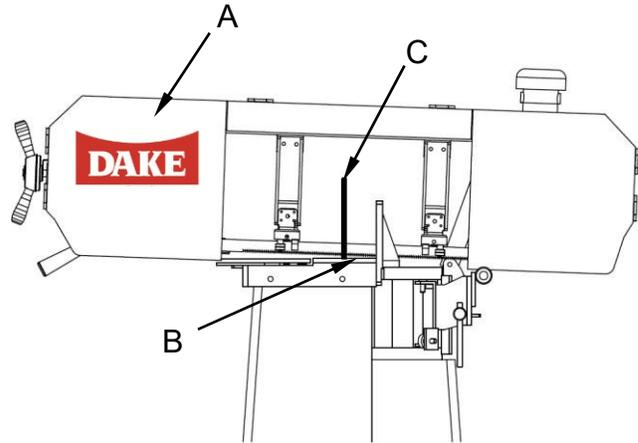
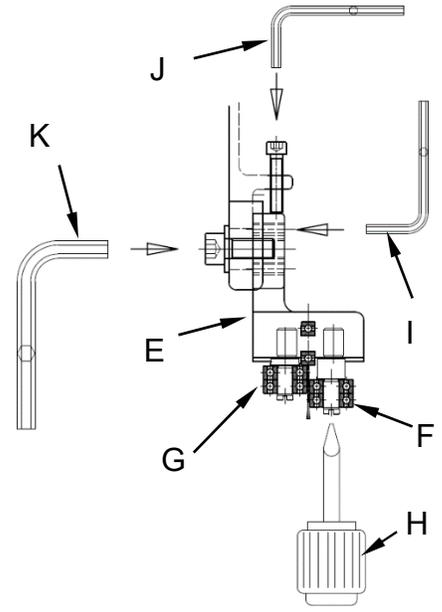
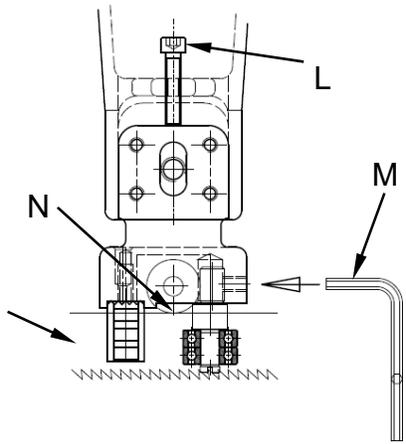

Figure 4
Figure 6
Figure 7
1. Raise the saw to the upward position and the bandsaw roughly $\frac{1}{2}$ " high from the workpiece as shown in (Fig. 4).
2. Remove the 90° angle ruler (C) and lean it against the workpiece surface.
3. Check the saw belt (B) is perpendicular to the work piece. NOTE: (If the deviation is large, you can adjust the blade guides accordingly).
4. First make sure that the bearings (F) and (G) are in close contact with the bandsaw surface. (Note: Visually, the bearing surface and the bandsaw surface are in close contact. Once the bearing can still be rotated freely, it is to ensure that the bearing is not crushed. , Easy to cause damage).
5. Adjust the bearing shaft. It can be adjusted with a slotted screwdriver (H) and fixed with a hexagon wrench (M). (Fig. 6) (Fig. 7)
6. Adjust the bandsaw 90 degrees, you can put the hex wrench (K) to loosen the screw, use the hex wrench (I) to adjust 90 degrees, and the hex wrench (J) to adjust the gap between the back of the bandsaw and the upper bearing After finishing the fine adjustment, fix the screw lock with the hexagon wrench (K). NOTE: (It is necessary to check and adjust the 90-degree angle between the main block and the two positions from the guide block at the same time)
8. After the saw belt has been tested correctly, the tungsten steel guide block (O) can be fixed on the guide block (C) with screws (P) to improve the stability of the saw belt when it rotates. (Note: The gap between the tungsten steel guide block and the saw blade surface must be about 0.1mm (about 1 sheet of paper) to prevent the tungsten steel from directly scratching the saw blade surface and causing damage)
9. Lift the saw head after completion, as shown in Fig.4, loosen the rotating seat mechanism, adjust the saw belt and fix the vise surface at a 90-degree angle, and use the zero-point fixing frame screws to perform zero adjustment. (Note: Make sure that the iron cut of the roller groove of the rotating seat is clean, to avoid the damage caused by the deposit when the bearing rolls)